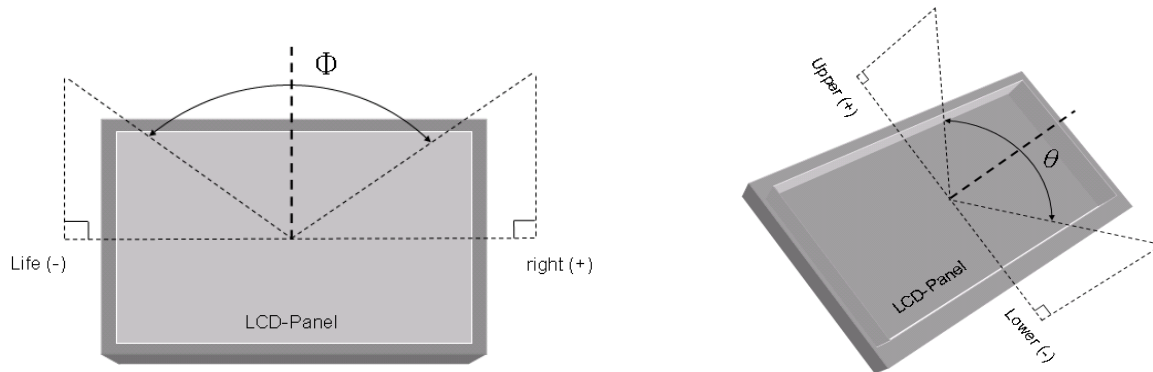

Fig8-2 Definition of Viewing Angle
*4) Definition of Viewing Angle(θ, φ), refer to Fig8-2 as below :